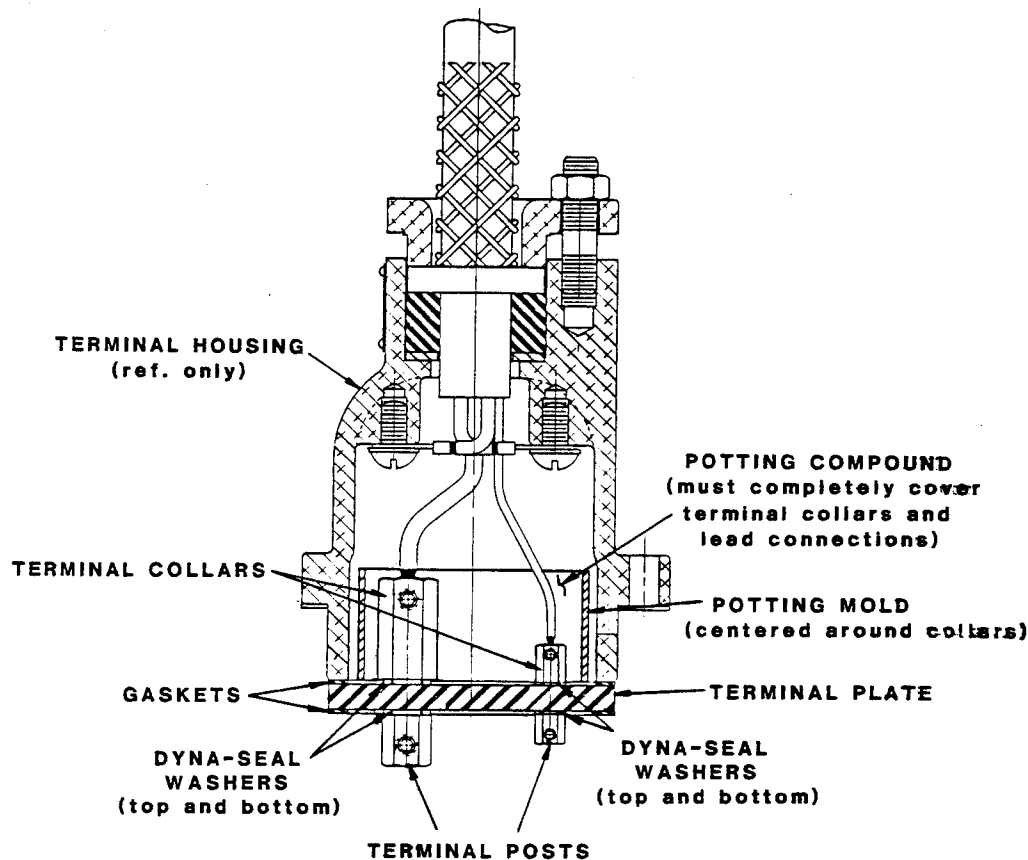

Figure 5. Potting Power Cable Leads In Terminal Housing
Lubricate the O-ring (11) with light oil and install it in the groove on lower motor housing (71). Install a three-leg sling in the lower motor housing (see Figure 5) and lower the assembled housing, rotor shaft and bearings into the upper motor housing. Use caution to guide the upper ball bearing (15) into the bearing bore in the upper housing, and make sure the holes for the capscrews (9) are aligned. Tap the lower motor housing with a soft-faced mallet until fully seated in the upper motor housing. Be careful not to cut the O-ring (11) on the upper motor housing shoulder.
When shipped from the factory, the cable leads and terminal collars were encapsulated in heat-shrink tubing (36 and 51), and bonded to the terminal plate (57) with hot-melt adhesive to provide a water-tight seal. These materials are included in an optional repair kit listed in the parts list; however, since a glue gun with the required temperature range is not generally available in the field, it is recommended that a commercially available repotting kit (Products Research Corp., part no. PR-1201-Q Class 1 potting compound, or equivalent) be used to reseat the connections. See Figure 5 and the following instructions: